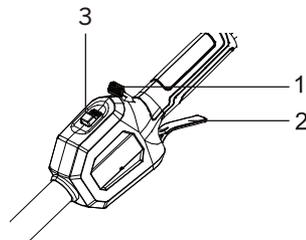

Fig. 10
1. Press the lock-off switch (1) (Fig.10).
2. While continuing to press the lock-off switch, squeeze the trigger switch (2).
The two-speed gear box switch (Fig. 10)(3)